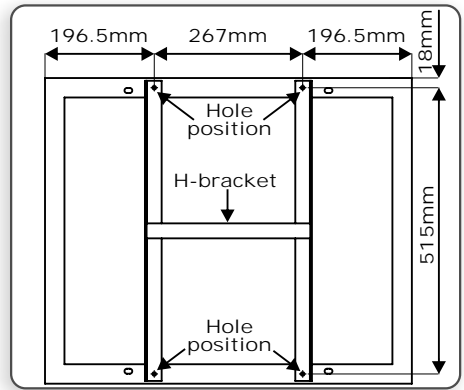

FIGURE 11
1. Align the H-bracket in the centre of the panel and proceed to mark the location of the four mounting holes. Figure 11 provides an indication of where the holes are to be drilled.